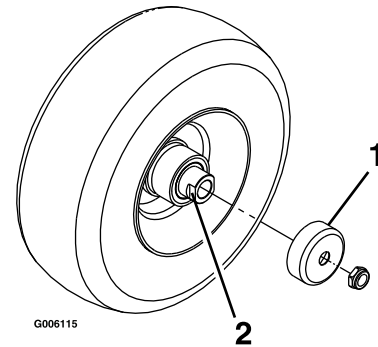

**Figure 42**
- Remove the grease zerk in the hole. Install the hex plug and dust cap (Figure 42).